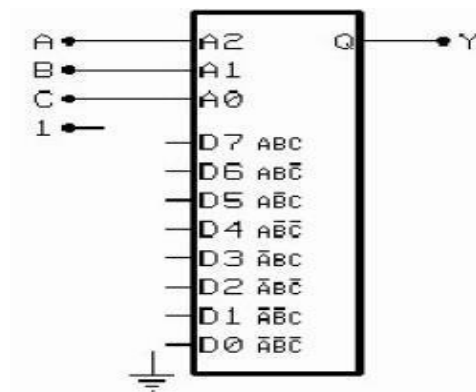

Figure 3.1: Half-Adder Functional Diagram.
- b) Sketch on Figure 3.1 the input connections necessary to implement the function in part (a). Observe that the inputs are connected to 0 or 1 depending on the value of the function for that min term.